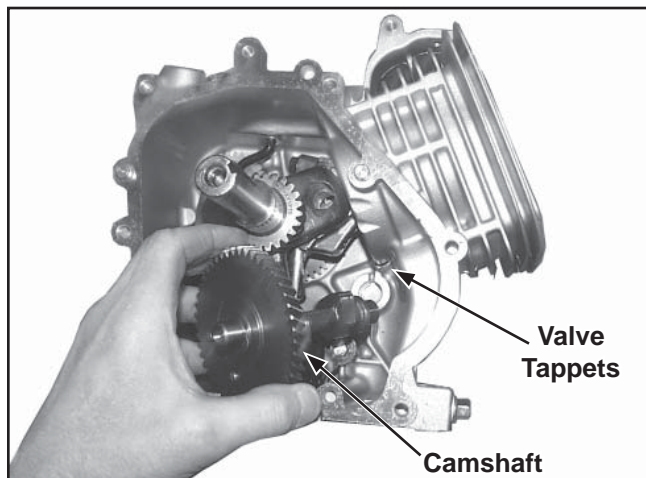

Figure 9-49. Camshaft Removal.
1. Remove the camshaft by pulling it straight out of the crankcase. See Figure 9-49.
2. Remove the valve tappets by pulling them straight out of the crankcase. See Figure 9-49. Mark their positions.